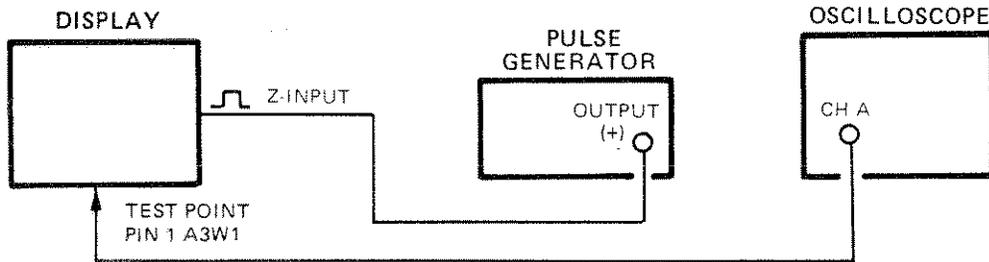

Figure 5-3. Z-amplifier Gain and High Frequency Adjustment Test Setup
- d. Connect equipment as shown in figure 5-3.